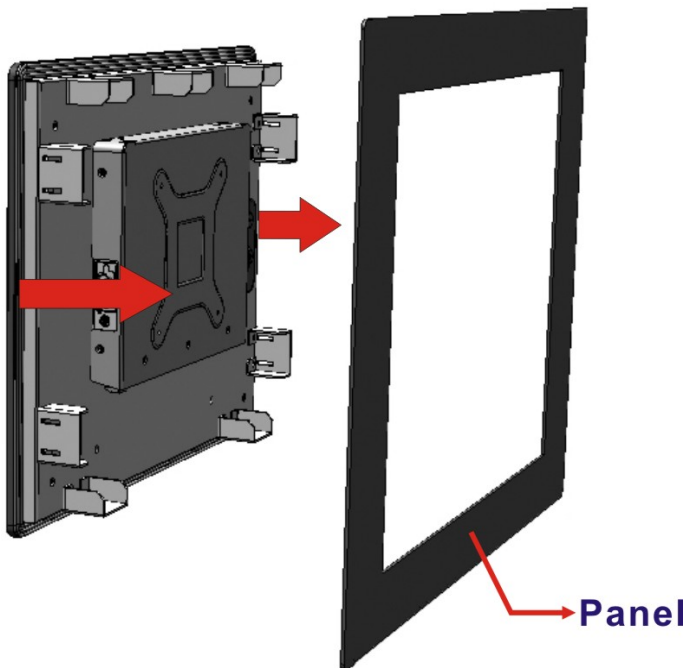

Figure 3-24: Slide into the Panel
Step 4: Slide the monitor through the hole until the aluminum frame is flush against the panel (**Figure 3-24**).